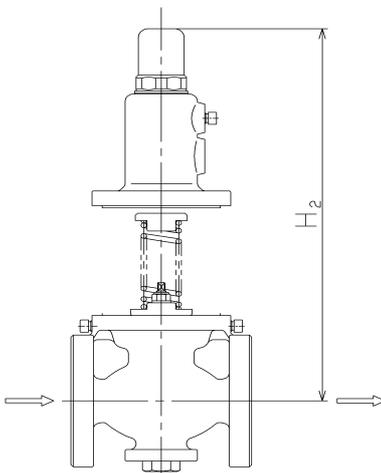

Fig. 1 Space required for disassembly
- (1) Joint for the outlet pressure sensing is not included with the product package.
- (2) Secure the space specified in the table below (H2) since it is required for maintenance and inspection. H2 indicates the required height above the horizontal center line of the piping (see Fig. 1 below).